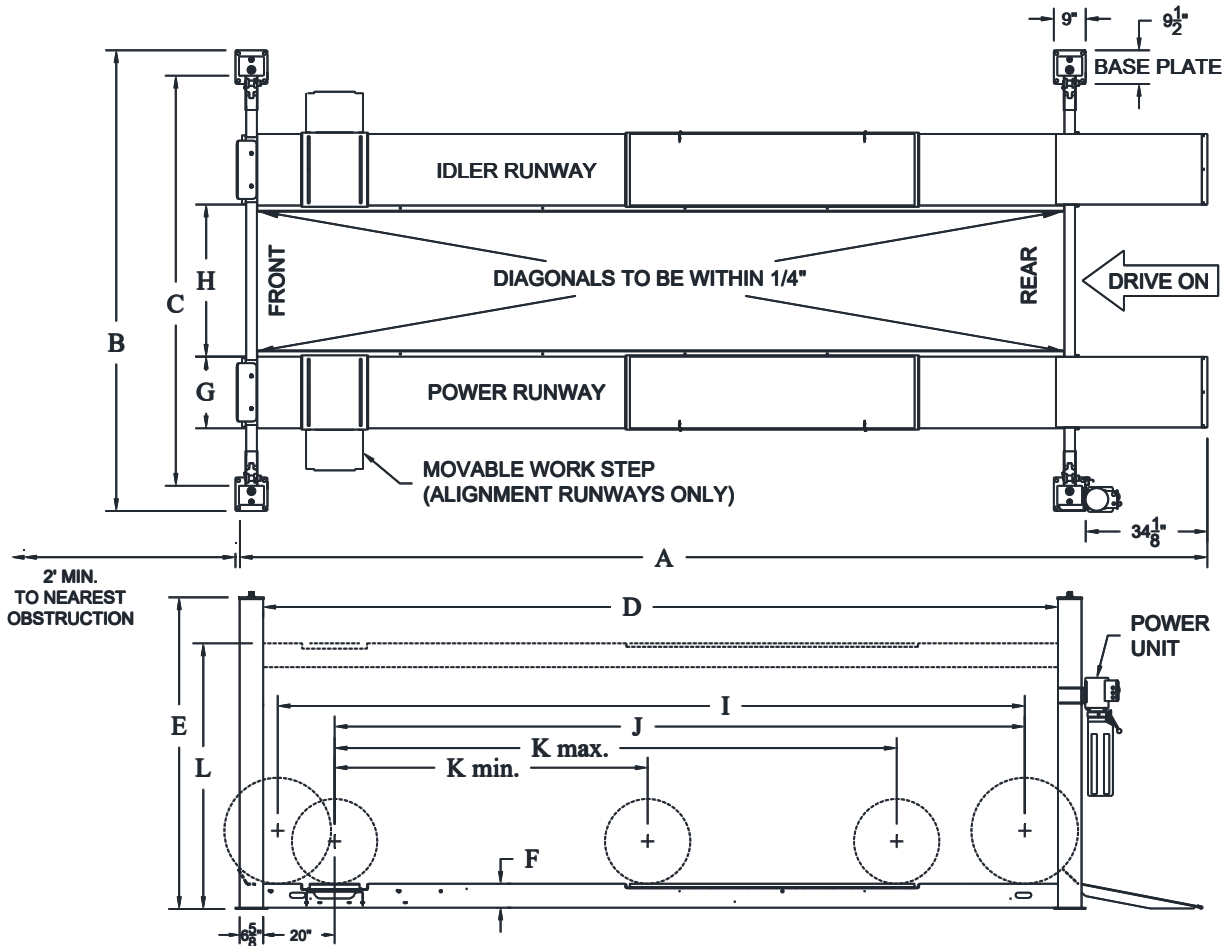
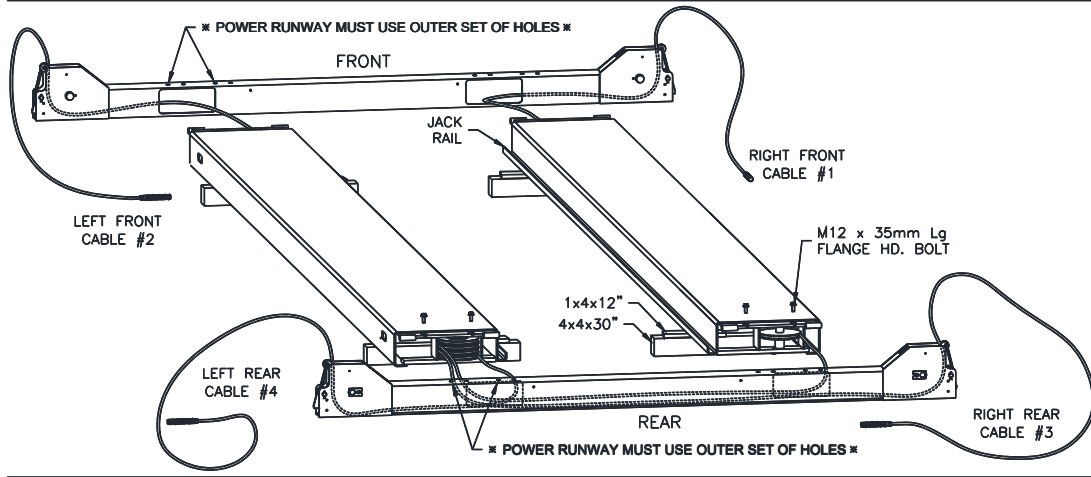

Fig 1 – General Specifications and Service Bay Layout
Fig 4 – Runway Layout
- 1) Lay out the service bay according to the architect's plans or owners instructions, **Fig 1**. Be certain that the proper conditions exist, see page 3.
- 3) Position runways on blocking (see Fig 4) per layout lines established in step 1. Use four 30" long 4x4's spanning the width of the runway and four 12" long 1x4's to shim up the jack-rail side of
the runway. Cable #1, #3, & #4 should be extending out from the rear of the power runway and cable #2 from the front of the power runway, Fig 4.
- 4) Position the front and rear cross beams, Fig 4. (Both cross beams are identical.)
- 5) Reach in through either of the access holes in the cross beam tube and pull out the roll of 4mm dia. plastic air line connected to the air cylinder at the end of the cross beam. Repeat for opposite access hole and position the cross beam near the end of the runways as in Fig 4.
- 13) Attach both cross beams to the runways (**Fig. 4**) with M12 x 35mm lg. flange head bolts (two at each end of each runway) being careful not to pinch the air line. Leave the airlines hanging out the bottom of the cross beam access holes at this time, they will be fed in through the runway after the lift is raised. **The outermost power runway slots should be in line with the outermost holes in the top of the cross beam, see Fig. 4.** The idler runway can be installed using the outer or inner sets of cross beam holes, see "Width Between Runways" dimension in **Fig. 1**. Do not torque bolts yet.